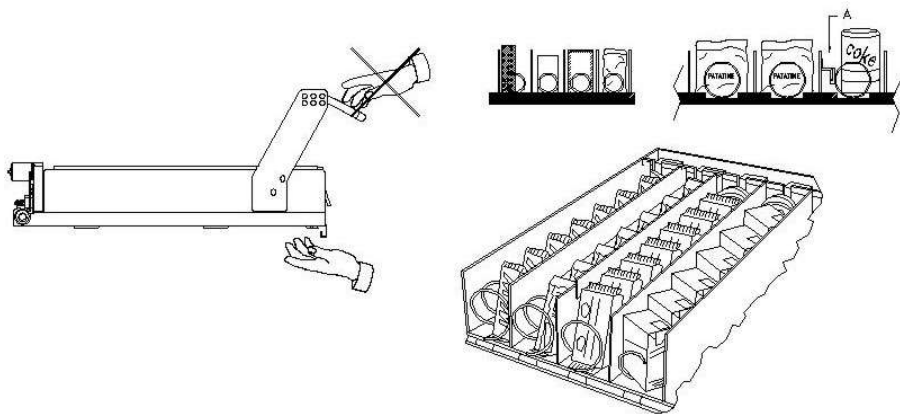

fig. 3
9.2 TRENNWÄNDE FÜR PRODUKTE IN DEN SCHUBLADEN (fig.3)